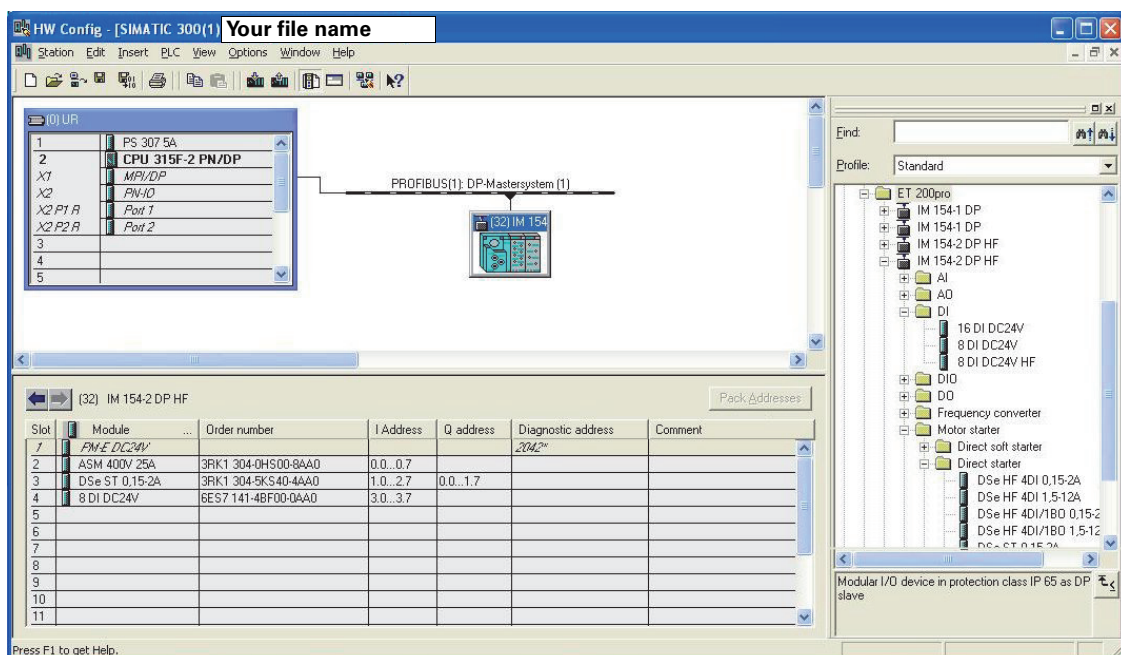

Figure 2-4: Modules in '*HW Config*'
1. Start the SIMATIC Manager and create a new project with a DP master (e.g. CPU315-2 DP) (see figure 2-4).
5. If not already carried out, update your software (see chapter 4.2 - 'Updating the software'), so that the ET 200pro modules are visible. Drag the individual ET 200pro modules from the hardware catalog into the configuration table (see figure 2-4).